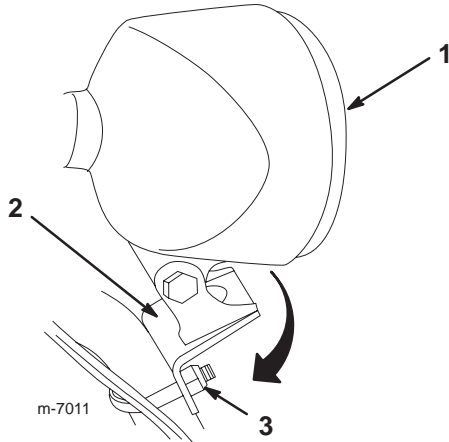

Figure 9
1. Loosen the nuts that hold the headlight bracket onto the right side of the handle (Fig. 9).
2. Rotate the headlight bracket to the right 90 degrees (Fig. 9) and tighten the nuts.